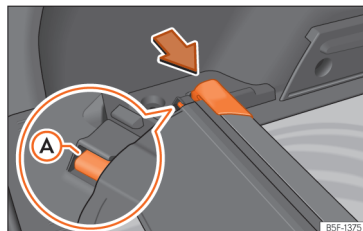

Fig. 181 In the boot: space to store the retractable shelf.
- Press the head of the retractable shelf in the direction of the arrow until it engages in its housing >>> **Fig. 181**. Make sure that slide ① fits into the corresponding housing.